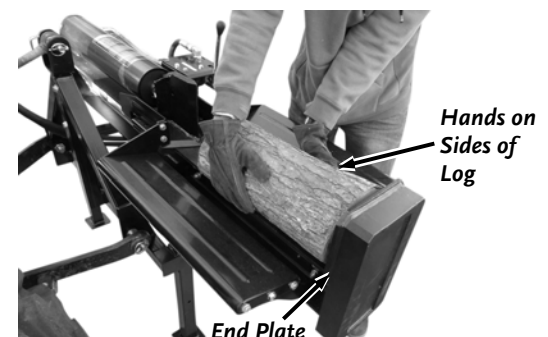

Figure 19
2. Place the log on the Log Splitter. Grasp the log on the sides near the middle of the log (**Figure 19**). Center the log, side-to-side, on the beam, making sure that one end is against the end plate.